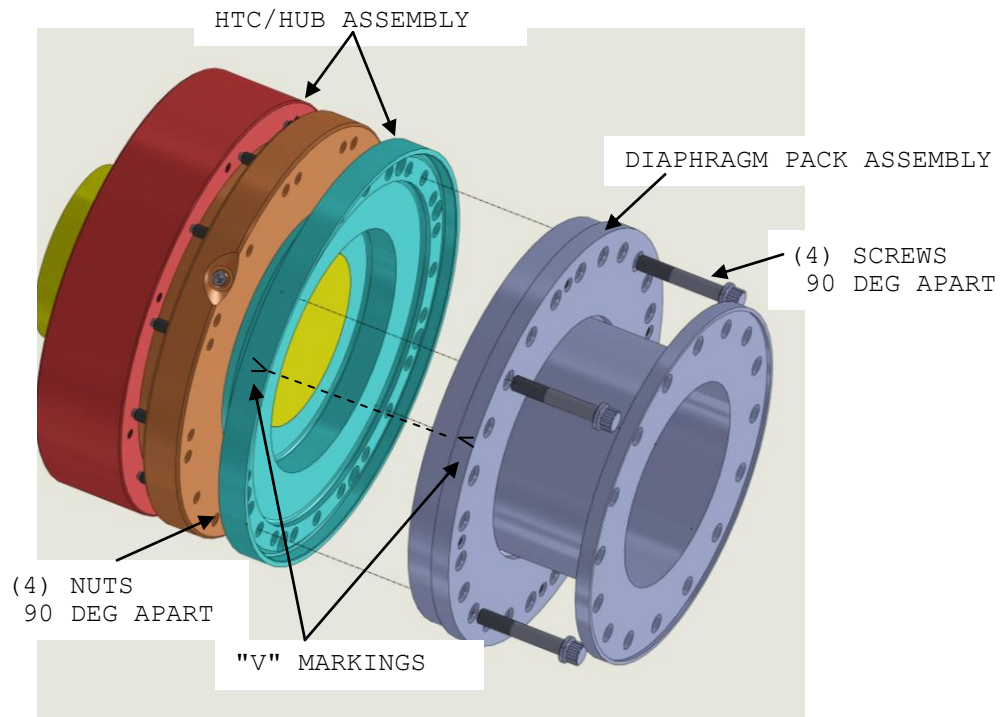

Figure 6 - Diaphragm Pack Installation
3.1.4 Install one of the diaphragm packs onto the hub as shown in Figure 6 using Qty(4) supplied bolts and nuts spaced 90 degrees apart. Be sure the 1/4"-28 jacking tap holes located in the diaphragm pack do not line-up with any holes in the HTC hub flange. "V" marks may be located on the hub and diaphragm pack rims as an aid (see
Figure 6). Aligning the V marks, although not required, will ensure the jacking taps are in the correct position. Tighten the bolts in a crisscross pattern to seat the pilot. (Reference Form 367-SH, section 4.5.1.3)